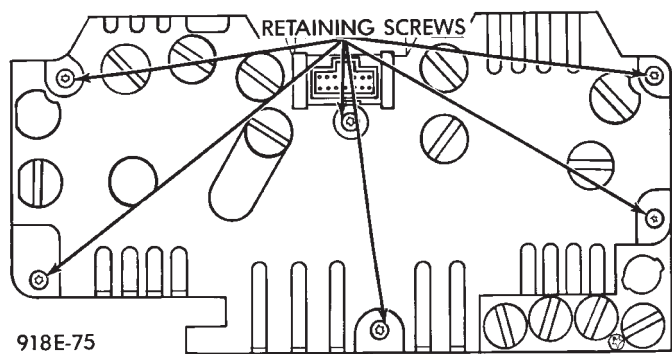

Fig. 13 Printed Circuit Board
- (6) Remove cluster.
- (7) Remove six screws and attach cover (Fig. 13).
(6) Remove cluster.
(7) Remove six screws that attach cover (Fig. 13).